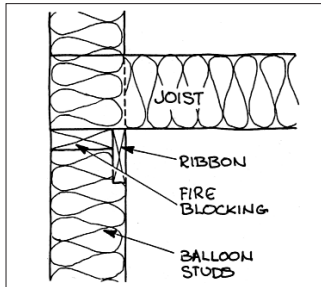

Figure 2. In balloon framing, nail firestopping level with the bottom of the joists to leave a cavity that can be sprayed from above.
- If fireblocking is done between balloon-framed studs, it should be nailed level with the bottom of the joists to leave a cavity that can be sprayed from above. Don't leave a cavity that must be sprayed from below (see Figure 2).